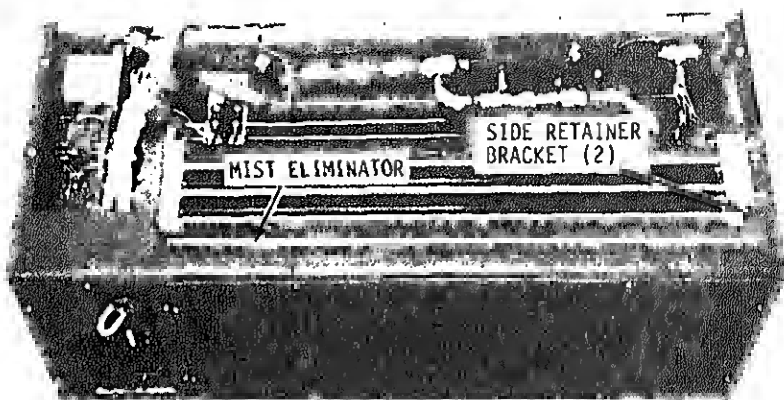

Figure 4-6. Mist eliminator removal and installation
(2) Refer to figure 4-6 and lift
(1) Refer to figure 4-6 and install mist eliminator by sliding down into position.